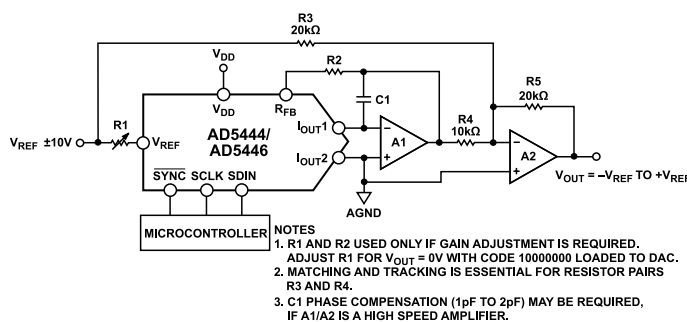

Figure 39. Bipolar Operation (4-Quadrant Multiplication)
In some applications, it may be necessary to generate a full 4-quadrant multiplying operation, or a bipolar output swing. This can easily be accomplished by using another external amplifier and some external resistors, as shown in Figure 39. In this circuit, the second amplifier (A2) provides a gain of 2. Biasing the external amplifier with an offset from the reference voltage results in a full 4-quadrant multiplying operation. The transfer function of this circuit shows that both negative and positive output voltages are created as the input data (D) is incremented from code zero ($V_{OUT} = -V_{REF}$) to midscale ($V_{OUT} = 0\text{ V}$) to full scale ($V_{OUT} = +V_{REF}$).
An optional compensation capacitor ($C1$) can be added in parallel with R_{FB} for stability, as shown in Figure 38 and Figure 39. Too small a value for $C1$ can produce ringing at the output, while too large a value can adversely affect the settling time. $C1$ should be found empirically, but 1 pF to 2 pF is generally adequate for the compensation.